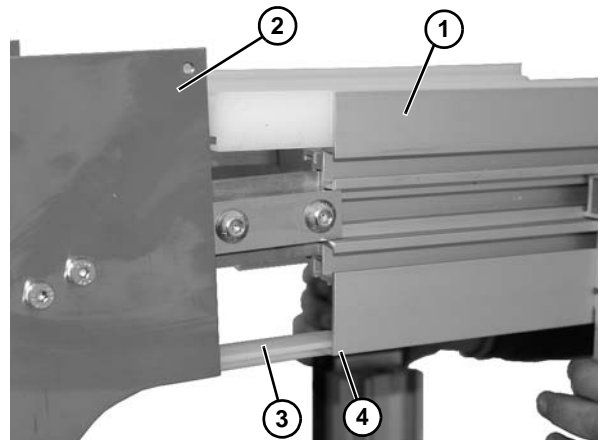

Figure 118
17. To install each frame portion on lower and upper part of knuckles, attach upper frame (**Figure 118, item 1**) to upper knuckle (**Figure 118, item 2**), taking care to install both lower wearstrips (**Figure 118, item 3**) onto frame channel (**Figure 118, item 4**).